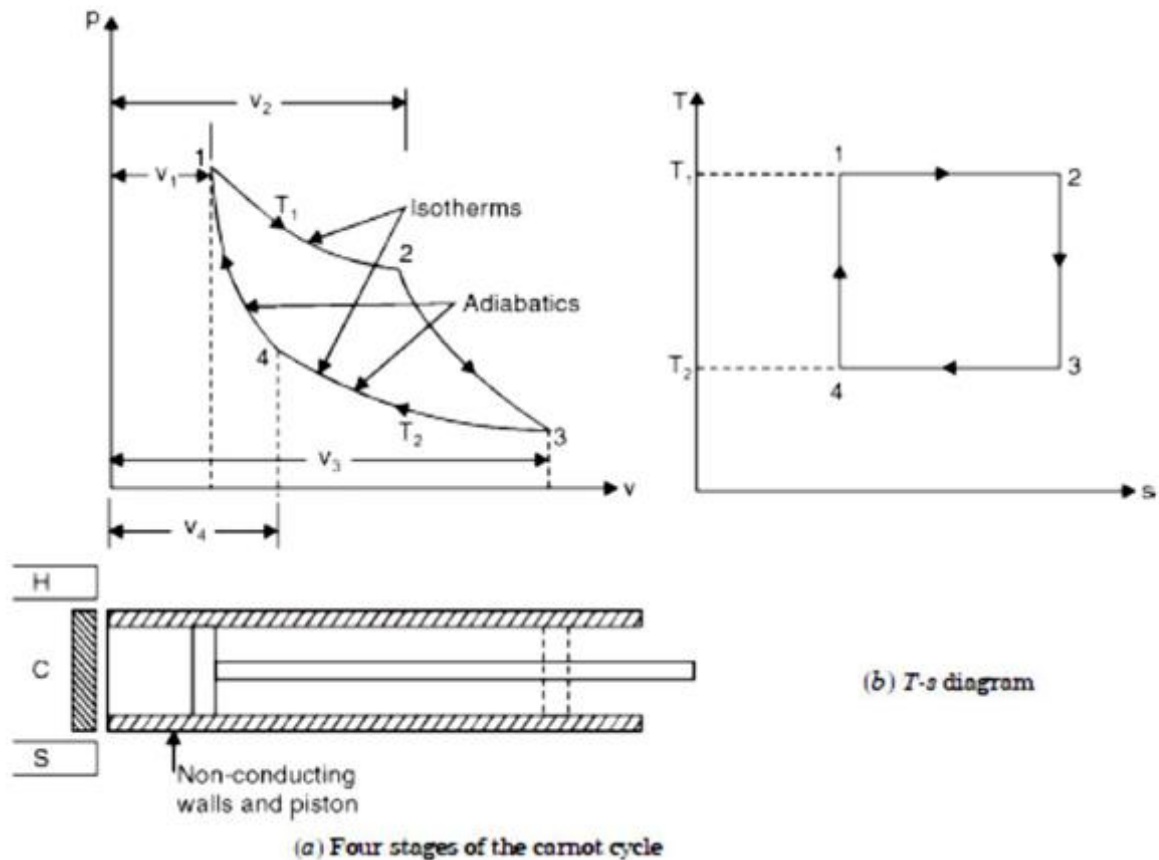

Fig. 7.2 P-v, T-S and schematic diagram of Carnot gas power cycle
- Fig. 7.2 shows essential elements for a Carnot cycle, P-v and T-S diagrams.